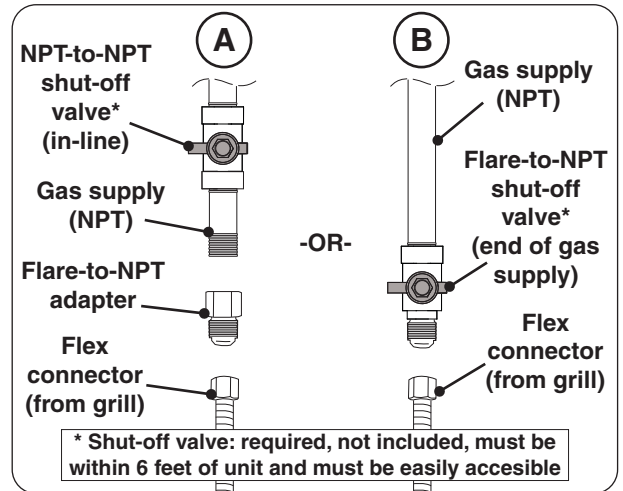

Fig. 22-1 Connecting to a gas line
- Install the supplied flare-to-NPT adapter to the gas supply (NPT) using a pipe joint compound resistant to all gasses (see Fig. 22-1, A). Tighten securely.
- Connect the flex connector to the adapter (see Fig. 22-1, A). Tighten securely.
- Connect the flex connector to the shut-off valve (flare) (see Fig. 22-1, B). Tighten securely.